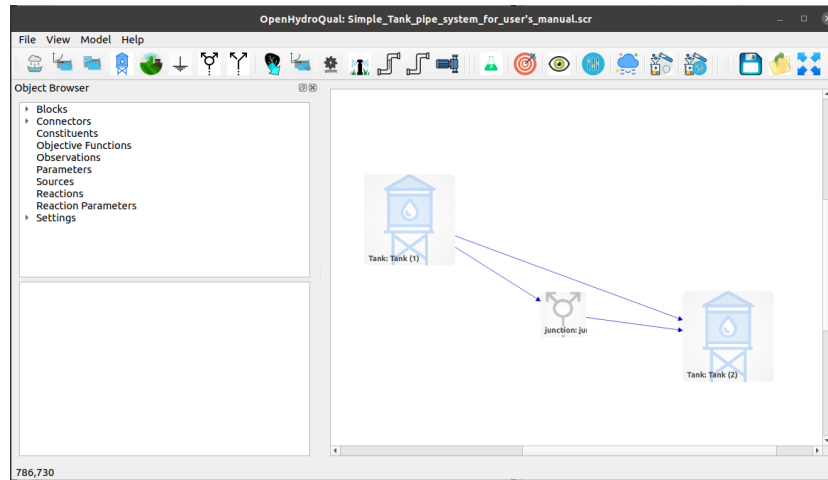

Figure 6: GUI screenshot for the pipes in parallel example
1. Use another two-way pipe  to connect Tank (1) directly to Tank (2). The screenshot of your GUI should look like figure 6.